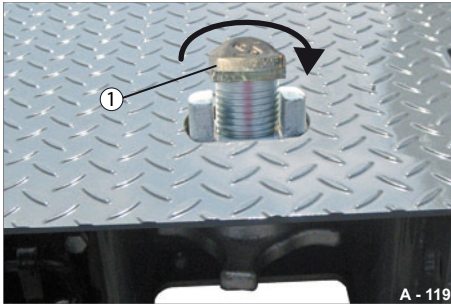

Fig. 141 Loosen pivot pin
- ▶ Rotate the pivot pin (Fig. 141/1) by 90 °.